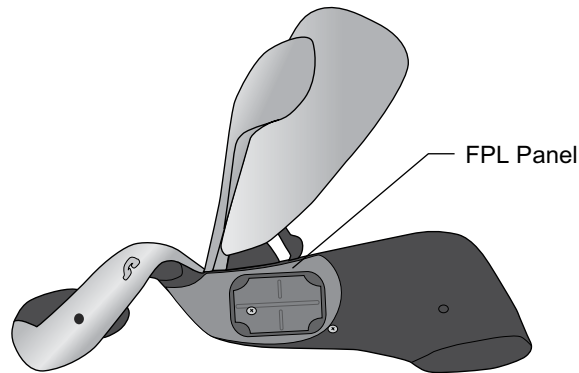

Figure 6-11: FPL Panel Placement on the Orthosis
5. Insert the FPL panel screw through the FPL panel electrode base and into the Orthosis FPL #5 electrode base and socket. See Figure 6-11.